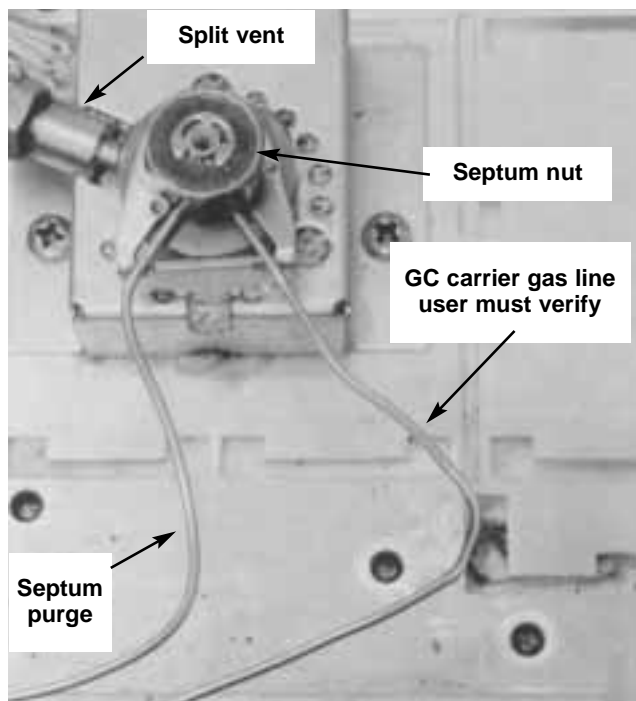

Fig 3.27 Close-up of the injection port of the HP5890, showing septum purge and carrier gas lines.
4. There are two $\frac{1}{16}$ " stainless steel gas lines which enter the front of the injection port, one is for the septum purge and the other is for the carrier gas. **See Figure 3.27. Determine which line is for the carrier gas by tracing the line back from the injection port.** The carrier gas line will pass through an internal gas filter on the inside back cover of the GC and eventually terminate at the back of the GC where the carrier gas line enters the GC from its source. Be sure that you have correctly determined which line is the carrier gas line.